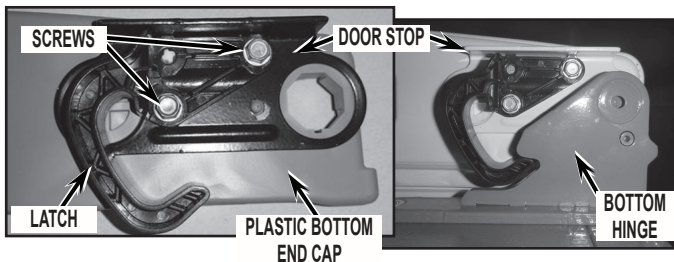

FIGURE 2
NOTE: For doors that do not have a plastic bottom end cap, only use the hinges and screws in the kit and discard the latches. See *Figure 2*.
7. Replace the parts for the bottom hinge as shown in *Figure 2*. Tighten screws. Replace the refrigerator door.